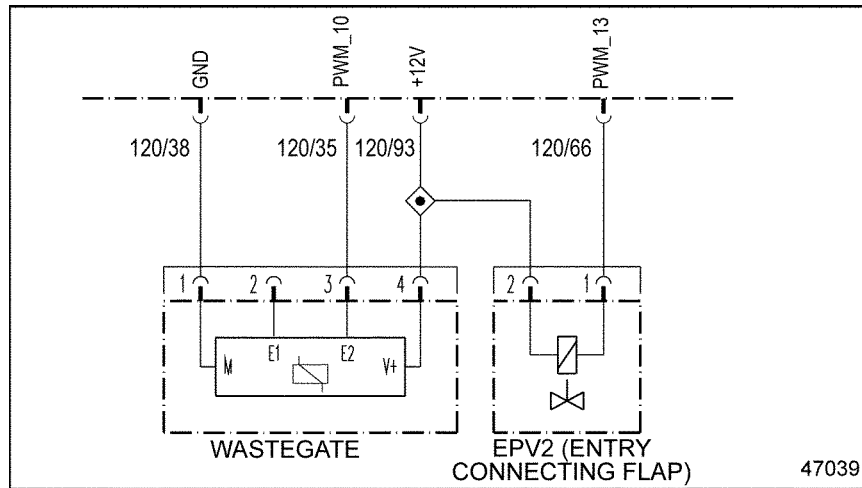

Figure 31-2 Wastegate
4. Measure the resistance between pins 1 and 3 of the wastegate valve connector. See Figure 31-2.